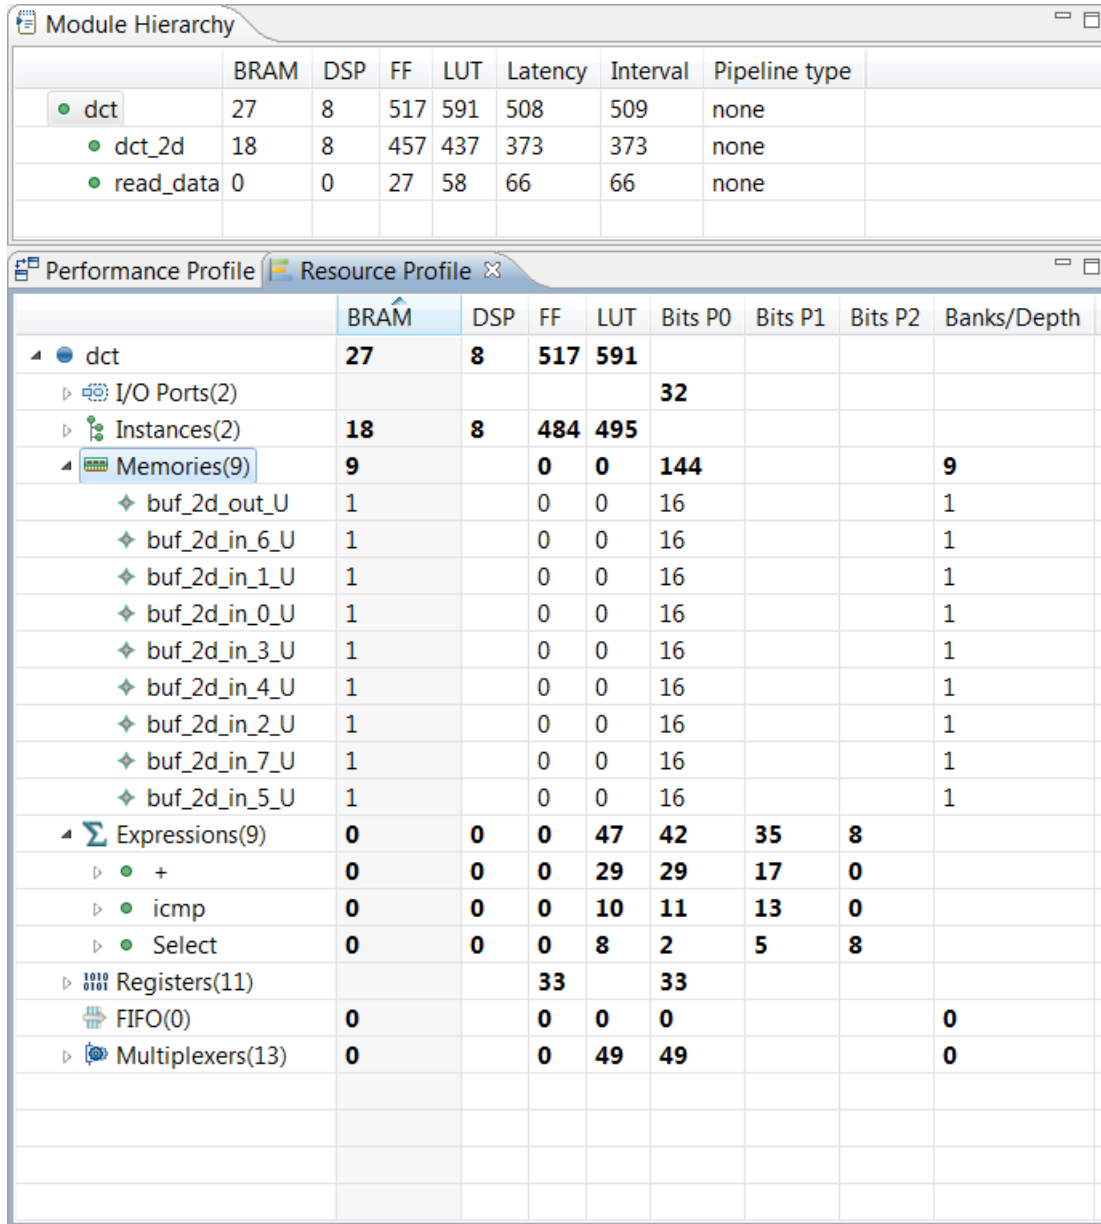

Figure 133 DCT Resource Profile
11. Expand the **Memories and Expressions** see the view in **Figure 133**.
The Resource Profile shows the resources being using at the current level of hierarchy (the block selected in the Module Hierarchy pane). Figure 133 shows:
As compared with Figure 133, you can see there are now twice as many memories at this level of hierarchy (18 vs. 9). Each memory has been transformed into a Ping-Pong buffer to support dataflow. In this case, no “new” memories were added; the existing memories were converted into dataflow Ping-Pong memory channels. This doubled the number of block RAMs.